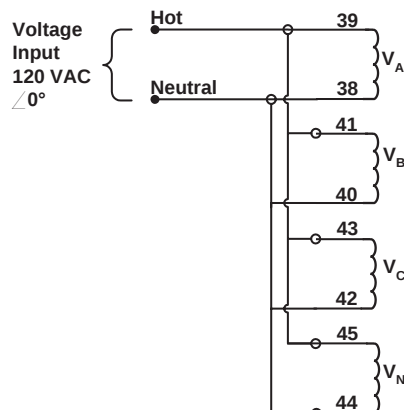

Figure 6-7 Voltage Calibration Configuration
3. Connect all voltage inputs in parallel ($V_A = V_B = V_C = V_N$) and apply 120.00 (± 0.01) VAC $\angle 0^\circ$. See Figure 6-7.